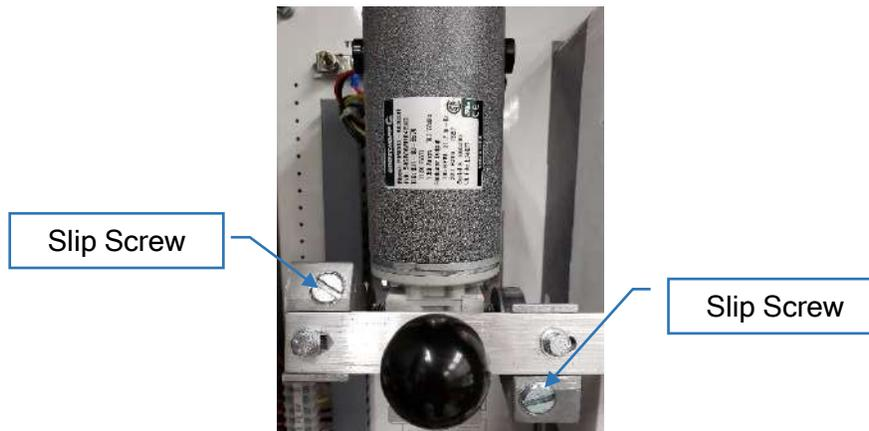

Figure 1 - Motor Slip Screws
4. Verify that all the motor slip screws are tight, (2 screws per motor), so that the motor(s) do not slip when they are powered up in the following sections. See Figure 1 - Motor Slip Screws for quick location reference.